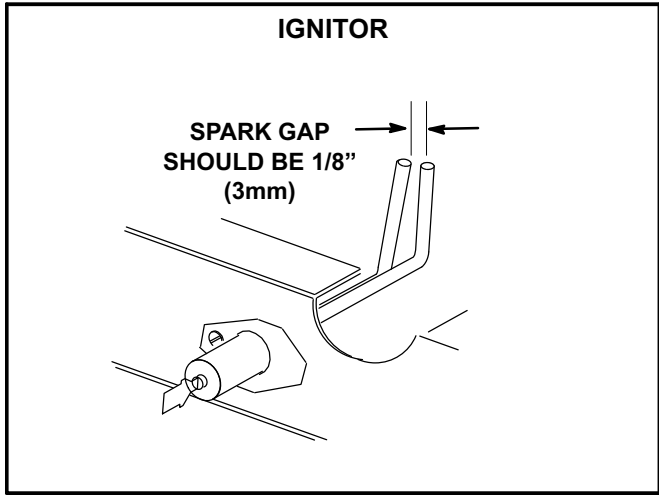

FIGURE 23
- 4- Locate the ignitor under the left burners. Check ignitor spark gap with appropriately sized twist drills or feeler gauges. See figure 23.